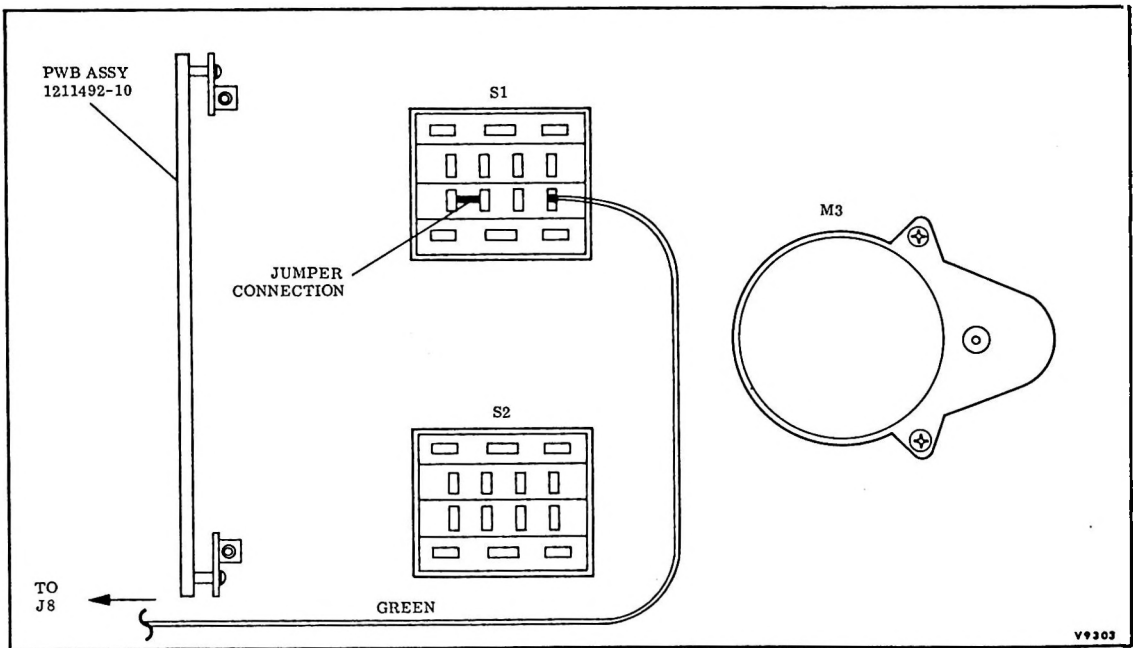

Figure 2-3. Speed Switch S1 Lead Modification
n. Route and solder the green lead from J8 to the N/O terminal of SPEED switch S1 as shown in Figure 2-3.
o. Jumper the N/O and N/C terminals as indicated in Figure 2-3.
- j. Route and solder the green lead from J8 to the N/O terminal of SPEED switch S1 as shown in Figure 2-3.
- k. Jumper the N/O and N/C terminals as indicated in Figure 2-3.